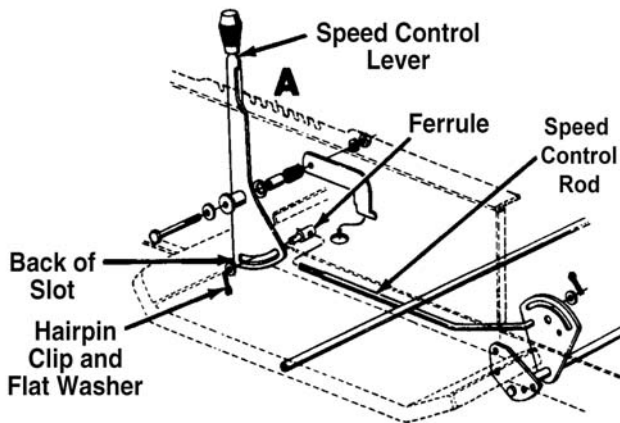

Figure 4-35. Speed Control
1. Adjust the speed control lever by pushing the clutch-brake pedal forward until the stop on the brake rod is against the frame. Have another person hold the pedal in this position as you make the following adjustment. Place the speed control lever in parking brake position. Remove the hairpin clip and flat washer, and adjust the ferrule on the rod so it is against the back end of the slot. Then lengthen rod one more turn. Reassemble and secure with the flat washer and hairpin clip. See Figure 4-35.